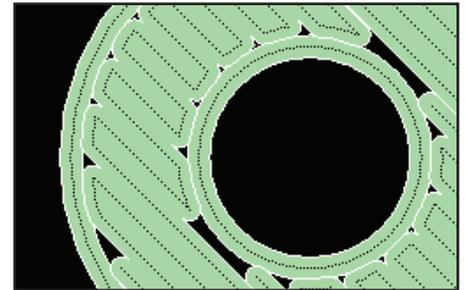

Figure 51: Defaults may produce porosity at the point of turnaround.
- Boss: At the contact points of the rasters with the contour, the raster turnaround will leave a small air gap. If tapping the boss, for example, the porosity would be exposed (Figure 51).